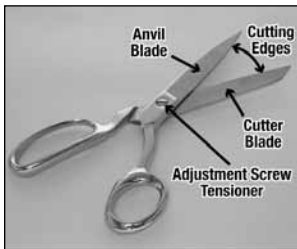

Figure 1. Typical right-handed scissors.
2. It is not entirely obvious that the two blades on some scissors can be different. When you cut with scissors, one blade the anvil blade, is designed to be below the material and the other blade called, the cutter blade, is above the material. See Figures 1 and 2. Commonly the blade on top of the material, the cutter blade, does most of the cutting. Referring to the Figures 1 and 2, note that the cutter blade usually has the oblong finger-hold and a more rounded tip. The anvil blade has a more pointed tip and a round finger hold.